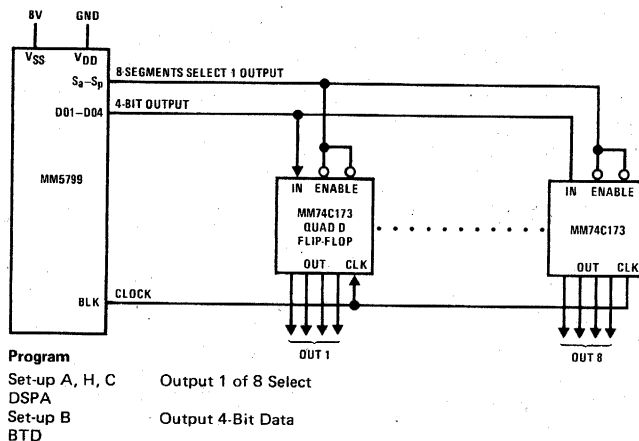

FIGURE 8. 8 Output Groups of 4 Each
*Figures 8 and 9* show some example methods of expanding I/O and control for general controller applications.